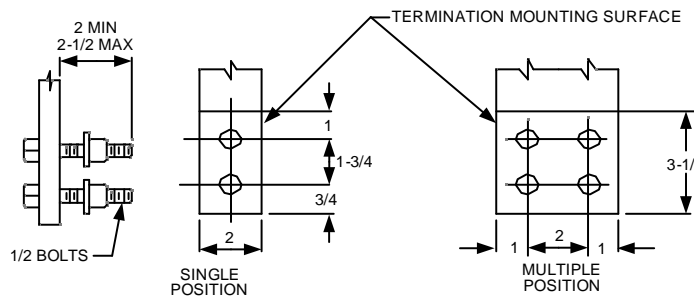
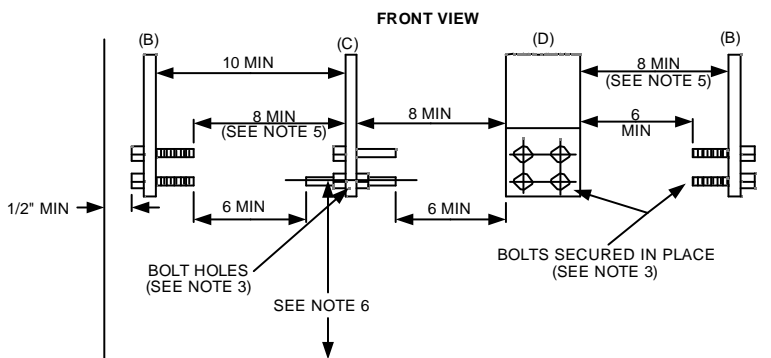

FIGURE 1
FIGURE 3
Exception: Edgewise terminating facilities may consist of 9/16" holes having the same spacing as specified for the 1/2" bolts as specified above and in Figure 1. The unobstructed working space shall be provided on both sides of the termination bus (see Figure 3).
4. In the terminal mounting area, which is defined as the area of the terminating facilities shown in Fig.1, a clear space (barrel of proximity) of 1-1/2" minimum is required around any terminating facility including its bolts and bolt heads, any other bus, any other terminating facility, or any grounded surface, except: